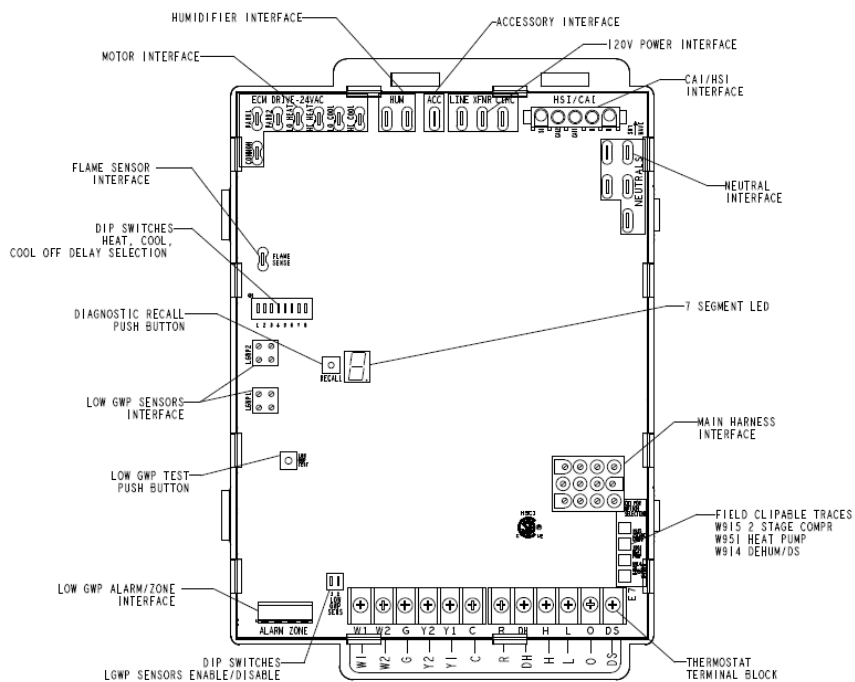

Figure 65.
7. One line voltage “ACC” 1/4” spade terminal is provided on the furnace integrated control. See Figure 65 for integrated control configuration. This terminal is energized when the indoor blower is operating. Any accessory rated up to one amp can be connected to this terminal with the neutral leg of the circuit being connected to one of the provided neutral terminals. If an accessory rated at greater than one amp is connected to this terminal, it is necessary to use an external relay.